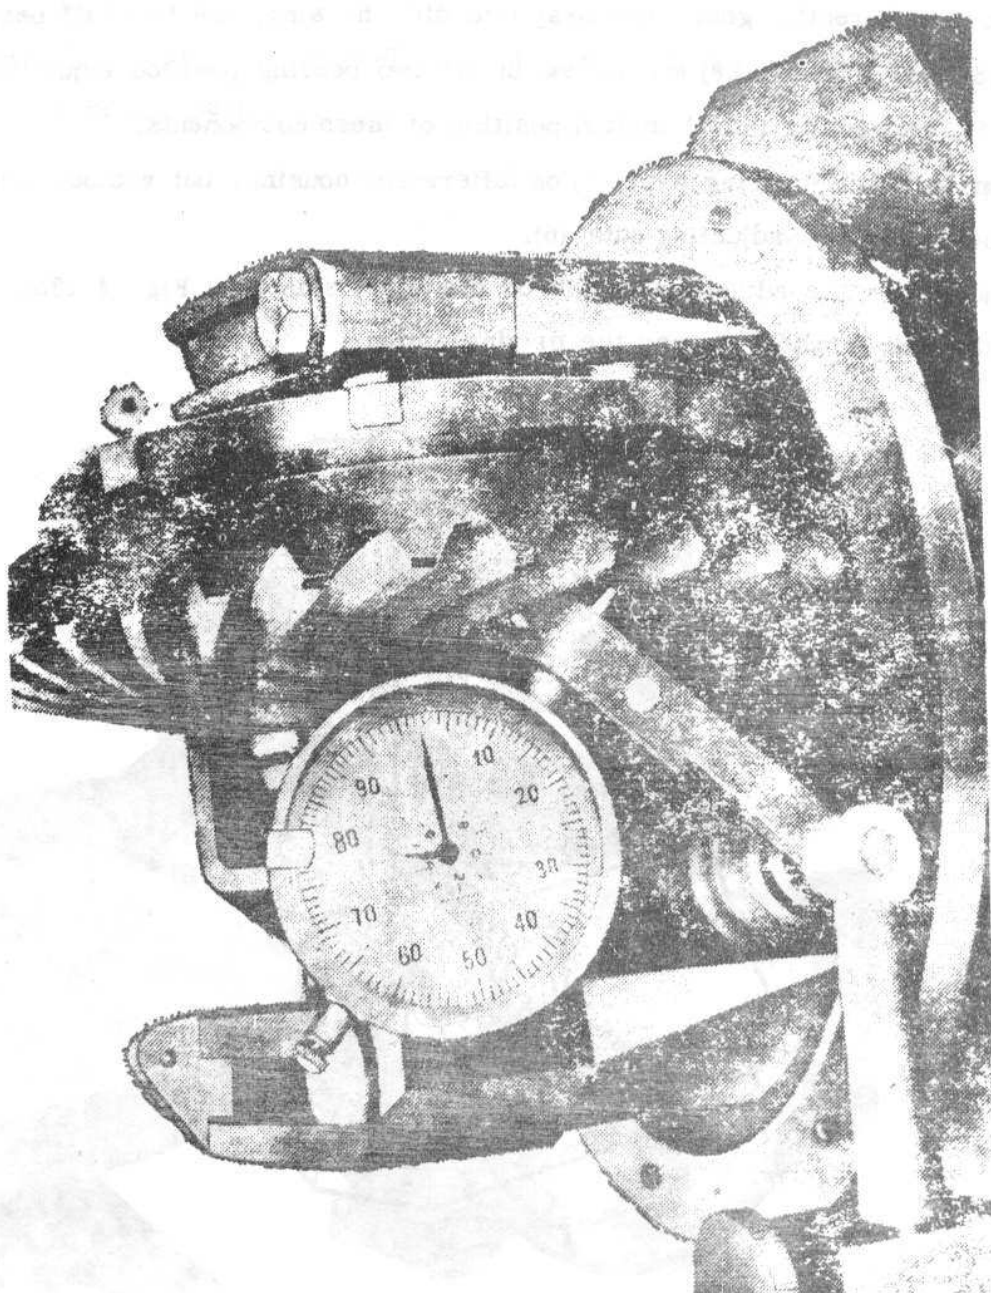

Fig. 4.136. MEASURING CLEARANCE BETWEEN DRIVE PINION
- Keeping driving pinion fixed, get the crown wheel nearer it, till, when measuring the backlash of the crown wheel teeth flank, it should not exceed the value of 0.1 - 0.2 mm (see Fig. 4.136). In this position the adjusting nut will be locked (having a recess in the middle of the half-bearing cap) by final tightening of the bolts, (fastening the half-bearing covers on differential housing) applying a torque of 4 - 4.5 m. daN (28.8 - 52.5 ft. lbs).